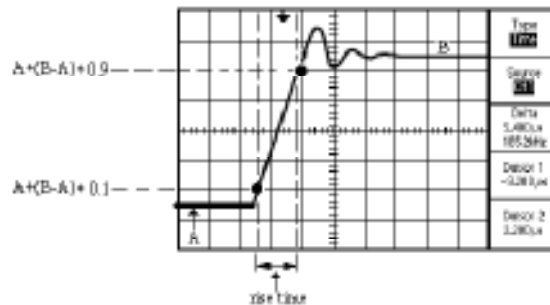

Figure 5.3
1. Turn the sec/div knob to display the rising edge of the waveform to look like Figure 5.3.